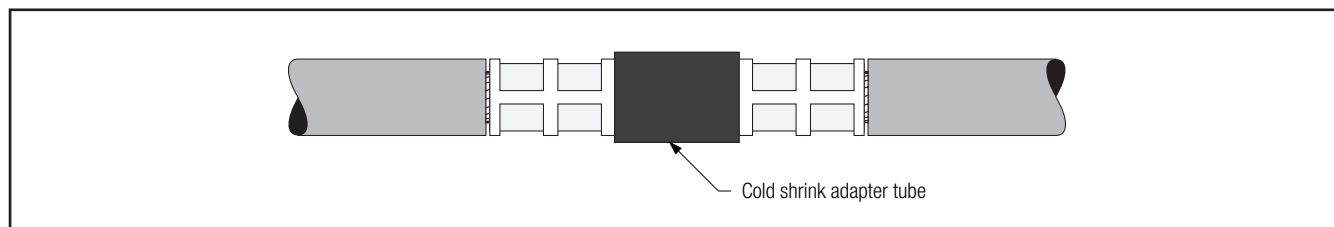

Figure 13
- 4.2 **If using cold shrink adapter tube:** Position adapter tube over the connector. Shrink adapter near center of connector by pulling and unwinding the loose core end in a counterclockwise direction (*Figure 13*).